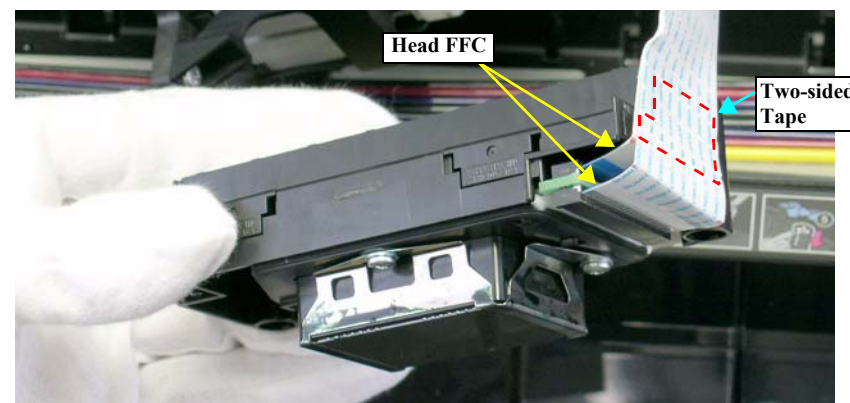

Figure 4-110. Disconnecting the Head FFC
11. Peel off the two Head FFCs secured to the PRINT HEAD with two-sided tape, and then disconnect the FFCs from the PRINT HEAD. *See Figure 4-110.*